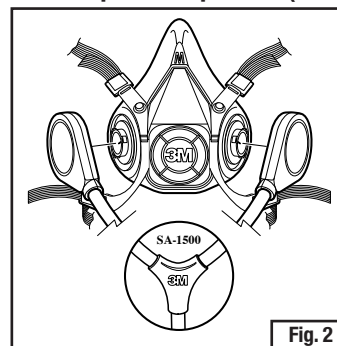

Fig. 2
1. Hold the half facepiece in front of you so that the 3M logo on the half facepiece is facing you. Align the two branches of the breathing tube over the two bayonet mounts on the half facepiece. For the 3M™ Dual Airline Breathing Tubes SA-1500 or SA-1600, make sure that the 3M logo on the breathing tube and on the half facepiece are both facing towards you. For the 3M™ Dual Airline Breathing Tubes SA-2500 or SA-2600, make sure that the 3M logo on the breathing tube is facing in the opposite direction to the 3M logo on the half facepieces (Figs. 2 and 3).